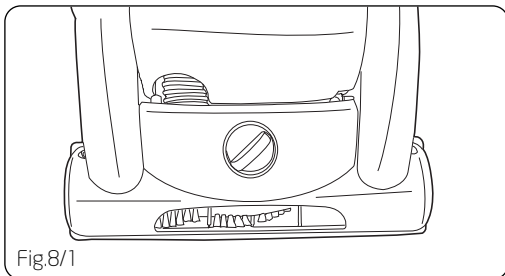

Fig.8/1
1. Unwrap hose from caddy. Press and remove tabs at either end to remove. Clean out hose with broom handle. Remove the two (2) screws on the base of the cleaner and lift up base hood to check nozzle for blockages (Fig.8/1).